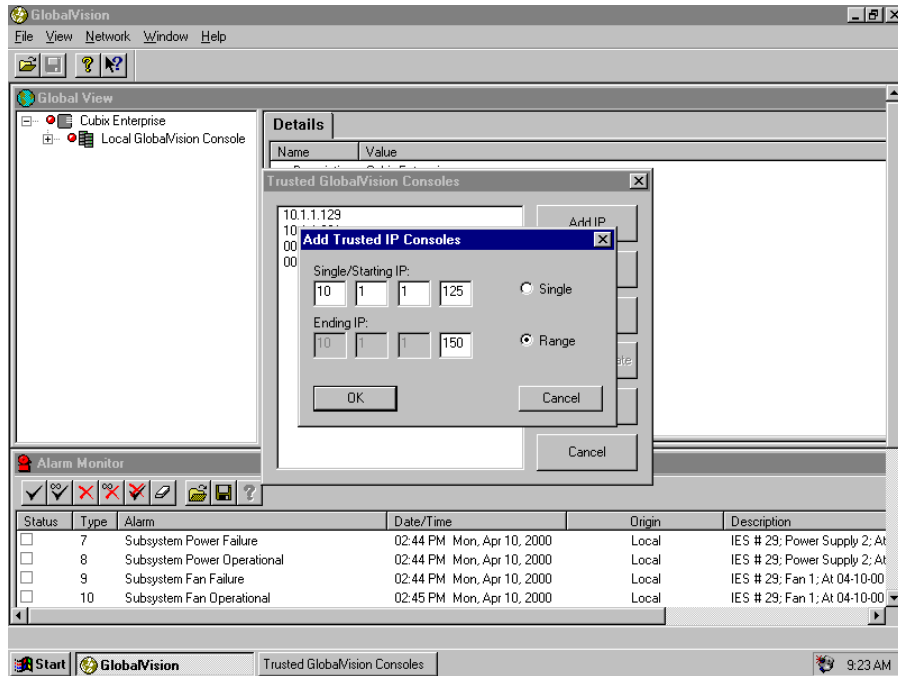

Figure 86 – Adding Consecutive Trusted IP Consoles dialog box (sample)
4. If you wish to add several IP consoles that are numerically consecutive, fill in the address of the beginning console under the Single/Starting IP. Select **Range**. The Ending IP box will become available. Enter the IP address of the last console in the range. See Figure 86. When you click on **OK**, the Trusted GlobalVision Consoles screen will reappear with all of the IP addresses within the group you have just added. You must click on **OK** in the Trusted GlobalVision Console screen to finalize changes. A dialog box will appear telling you that GlobalVision must be restarted for changes to take effect.